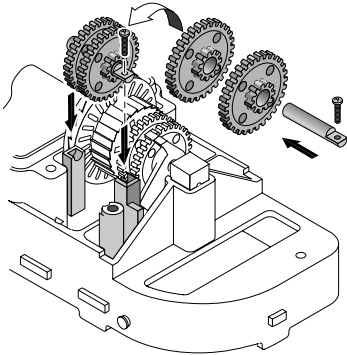

Figure 27
4. Reinstall the short gear shaft, set screw and two gears (See Figure 27); the small pinion gears and the shaft set screw go on the side toward the *end* of the cleaner – away from the oscillator box. Make sure that the gears engage the gears on the long gear shaft.